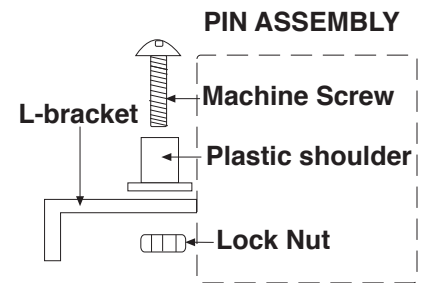
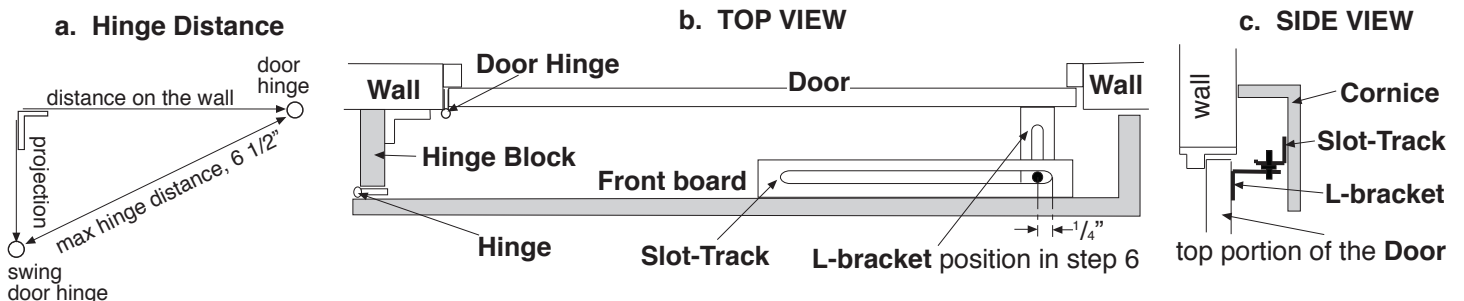

Fig 4 **Pin Assembly/L-bracket**
Fig 5 Assembled **Cornice** with **Swinging Door Top Treatment Kit**
6. Put the **Cornice** back on the **Hinge Block**. Close the **Door** and **Cornice**, and measure the distance between the **Door** and the **Front Board**. If this distance is between 3" and 3 1/2", the **Pin Assembly** should be loosely placed in the slot of the long leg of **L-bracket** as shown in fig 4. If it is between 1 1/2" to 2", loosely place the **Pin Assembly** in the slot of short leg. If the distance is out of these ranges, spacers, Stk# BB15, are needed to add length to either the short leg or long leg of the **L-bracket**. Insert the **Pin/Assembly** 1/4" from the end of **Slot-Track** slot closest to the opening of the door as shown in fig 5, lift the **Cornice** slightly, press the **L-bracket** against the door, mark the screw holes of the **L-bracket**.
7. Swing the **Cornice** away from the **Door**, and attach the **L-bracket** to the **Door**. Swing the **Cornice** back, lift it slightly, and make sure the **Slot-Track** slot rests on the **Pin Assembly/L-bracket** as shown in fig 5. Push **Cornice** firmly against the **Door** while tightening the **Nut** on the **Pin Assembly**.